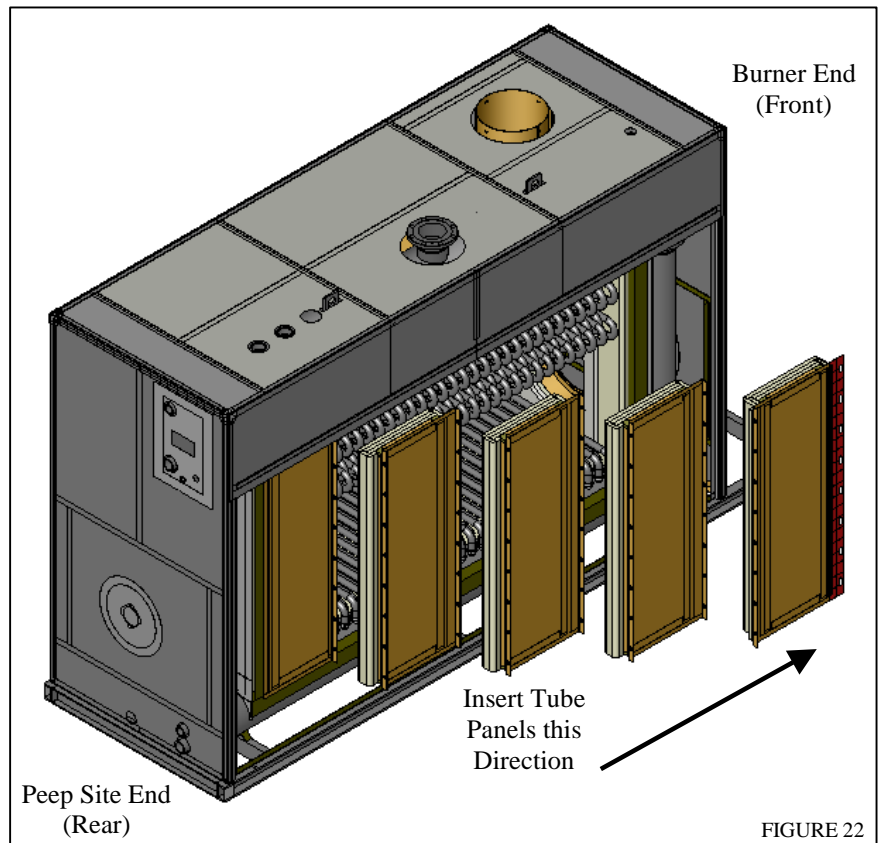

FIGURE 22
**6.5** Install the tube panels. See Figure 22. Start from the peep site end. Install rope gasket between each panel. Install tube panel clamp angles. Do not tighten the nuts and bolts until all panels are in place. **NOTE:** The hinged panel will be at the burner end. Once all panels are in place, tighten all bolts and nuts.